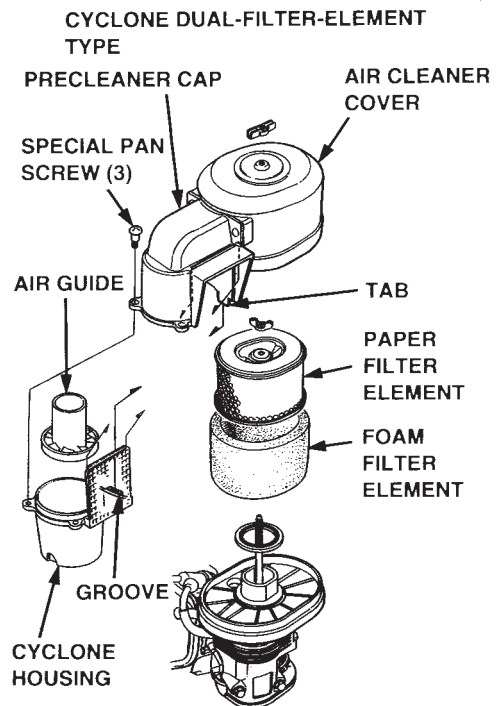

Figure 32. Engine Air Cleaner
- Tap the paper filter element (Figure 32) several times on a hard surface to remove dirt, or blow compressed air [not exceeding 30 psi (207 kPa, 2.1 kgf/cm²)] through the filter element from the air cleaner case side. **NEVER** brush off dirt. Brushing will force dirt into the fibers. Replace the paper filter element if it is excessively dirty.